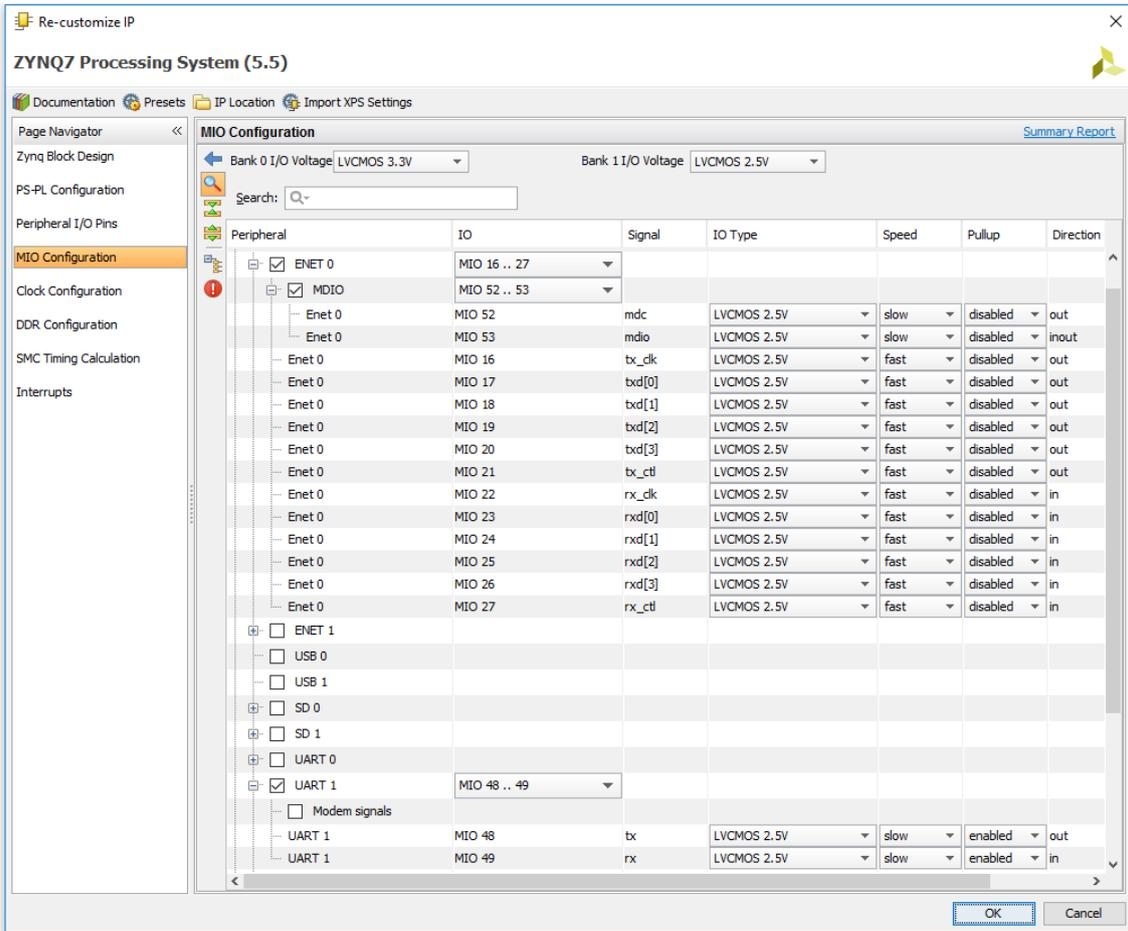

Figure 7: MIO Configuration
- In **MIO configuration** (Figure 7), allocate and configure the MIO pins for Ethernet and UART peripherals. An example is provided in the following figure.